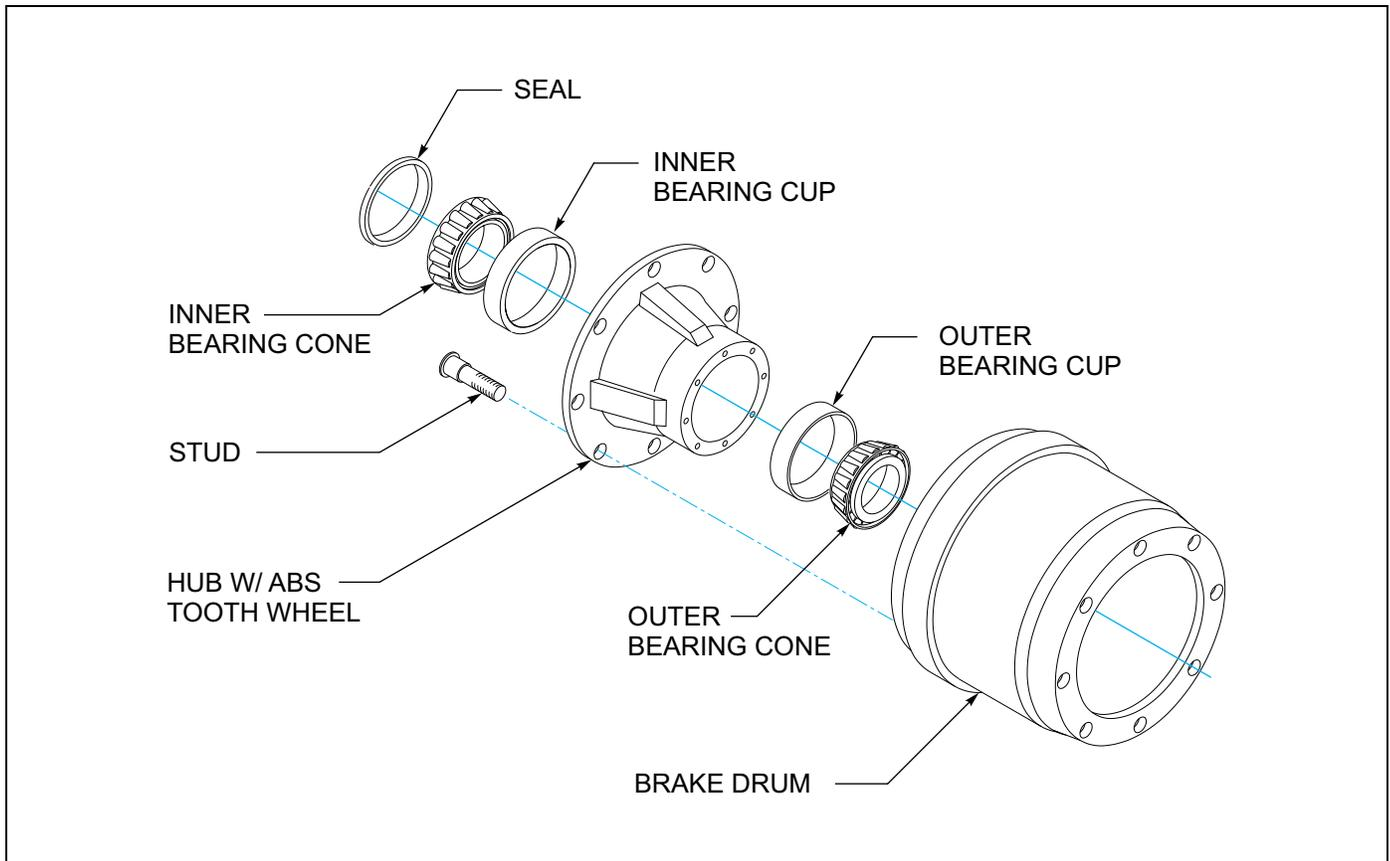

Figure 4-9: Outboard Hub and Drum
1. For outboard mount hub and drum, remove the brake drum (**See Figure 4-9.**) It may be necessary to release the slack adjuster.
18. For Outboard Mounted Brake Drum, place the drum over the hub and brake shoes being careful not to damage the threads on the studs (**See Figure 4-9.**) Make sure the drum seats flat against the hub flange and mates properly with the hub pilot. There should be no interference between the brake drum pilot chamber and the corner radius on the hub. If interference exist, the hub will not be able to function properly.